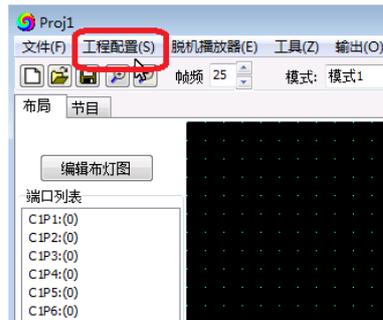

Figure 2
1.3. Click on "Online Code", as shown in Figure 2.